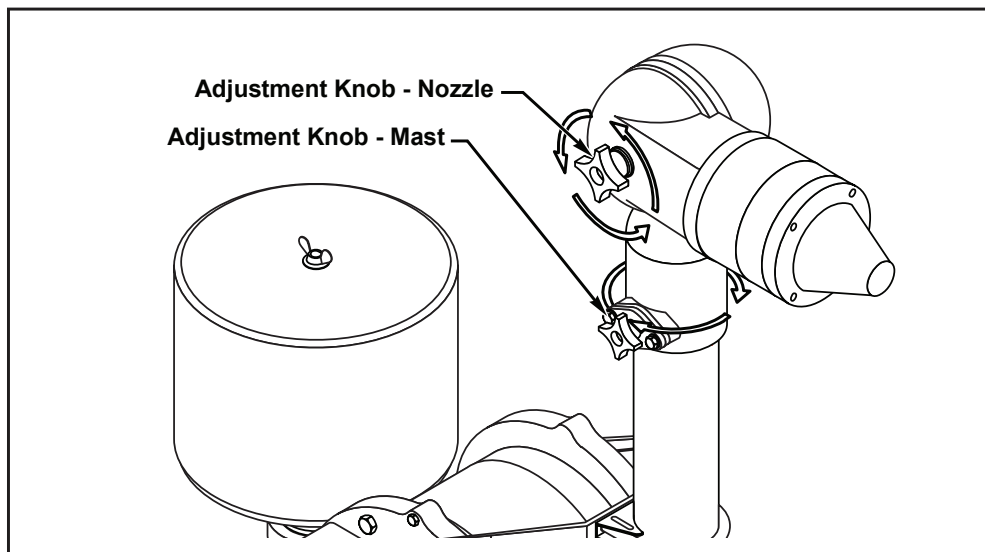

Figure 7- Nozzle Position
9. Verify that the nozzle is in the correct position for spraying. The nozzle is adjustable both horizontally and vertically. To rotate the nozzle, loosen the appropriate knob on the side of the mast or side of the nozzle head and rotate the nozzle. Retighten the knobs after adjustment. Reference Figure 7.